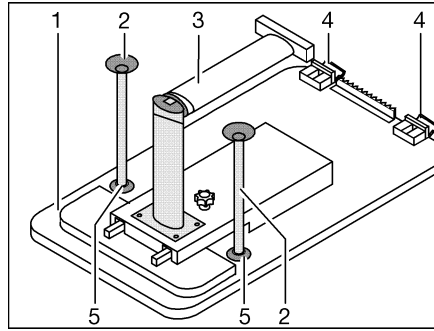

Fig. 101 Bed foundation
- Slightly raise the front of the table-top (Fig. 101,1).
- Unlock table leg (Fig. 101,3) at the hinge and fold it in.
- Push the table-top approx. 45° upwards and remove holders (Fig. 101,4) from the upper mounting rail.
- Depending on the model, insert both additional support legs (Fig. 101,2) into the holders (Fig. 101,5) on the bottom side of the table.